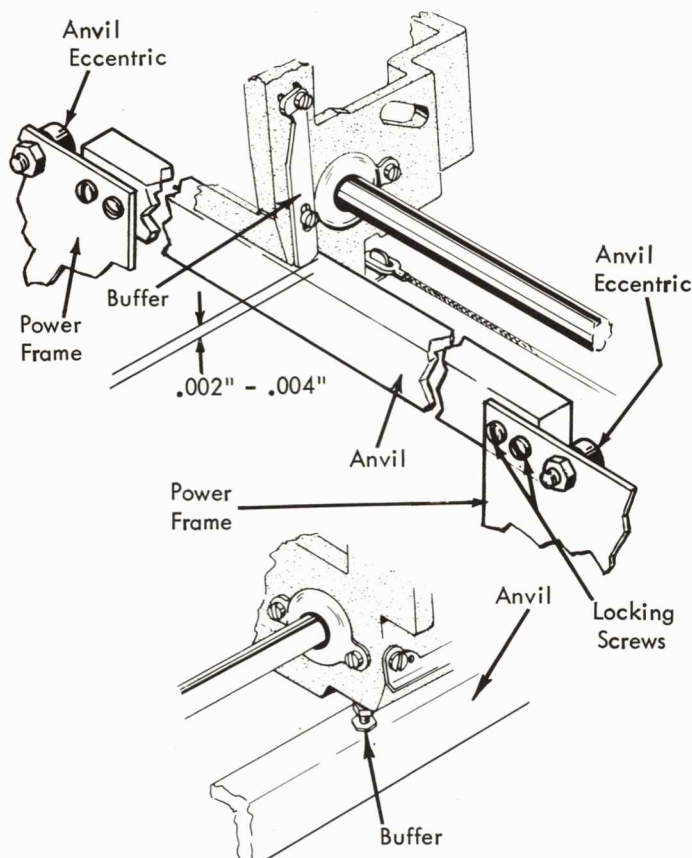

FIGURE 96. Carrier Buffers (15 Inch Machines)
- Raise the anvil adjusting eccentrics and the restoring cam follower eccentric to prevent any interference, and remove the ribbon feed plate for accessibility. (Fig. 96).
7. Anvil - The eccentric at each end of the anvil is adjusted so that the anvil properly restricts the free flight of the typehead. The adjustment can be checked by printing a period or similar character with the copy control lever set all the way back. The period should fail to print or print very faintly. With the copy control lever pulled forward one notch (fourth position), the period should print lightly. The ribbon and one sheet of paper should be used when making the check. The check should be made at each end of the platen only, because flexing of the parts will allow a slightly different condition in the middle of the platen. The high part of each eccentric should be kept outward towards the side (Fig. 96).
NOTE: The restoring cam follower eccentric should be adjusted all the way up while the anvil is being set. The carrier buffers must also be moved up out of the way of the anvil (Fig. 96).
8. Carrier Buffers - A buffer plate attached to the right side of the carrier and an adjusting screw under the left side strike the top of the anvil to prevent the print shaft from flexing downward. Each should have .002" to .004" clearance with the top of the anvil (Fig. 96).